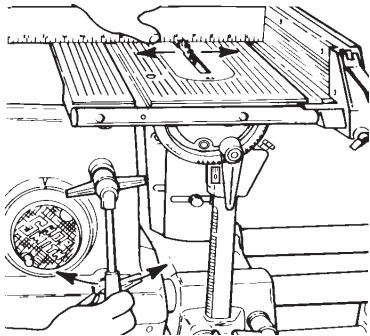

Figure C-6
1. Mount the rip fence to the worktable. Move the fence the desired distance away from the saw blade, then lock it. Use the quill feed to make fine adjustments. See Figure C-6.